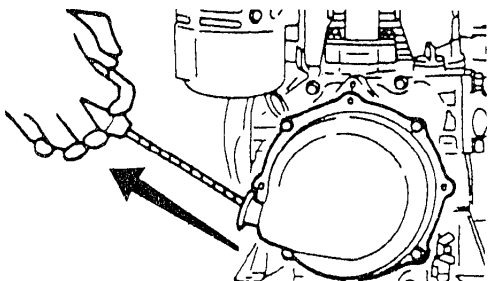

Figure 9. Starter Grip
3. Grasp the starter grip (Figure 9) and slowly pull it out. The resistance becomes the hardest at a certain position, corresponding to the compression point. Pull the starter grip briskly and smoothly for starting.